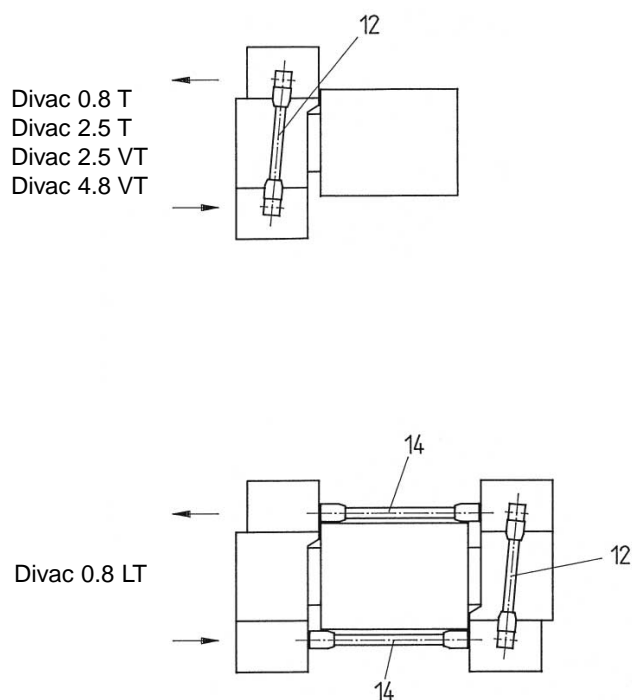

Fig. 3 Pneumatic interconnecting line between pump heads (schematic diagram)
Remove the pneumatic interconnection lines (Fig. 3 and 4, item 12) running between the heads.